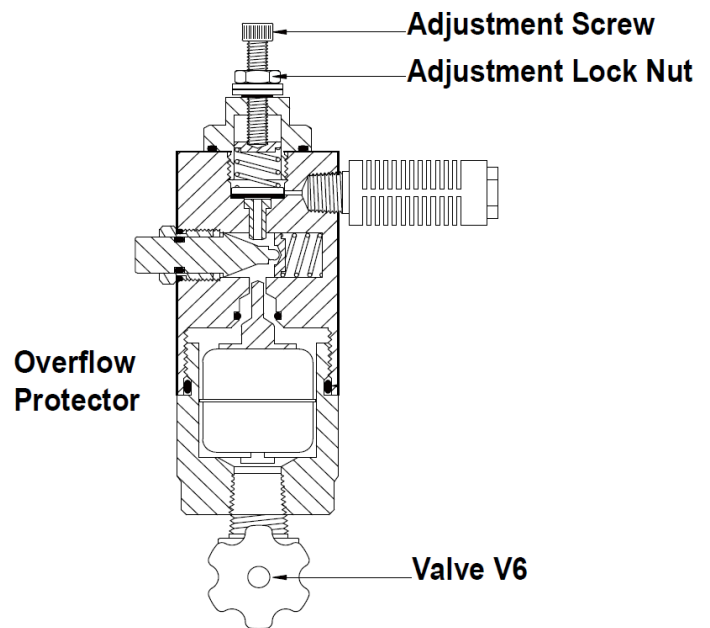

Figure 78 Overflow Protector
1. With valve **V6** open, figure 78, slowly open valve **V4**, figure 78, until gas begins discharging at exhaust port.